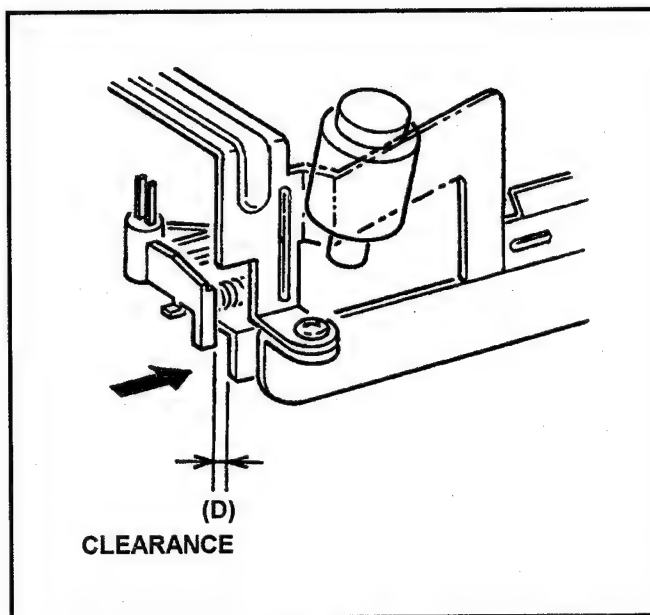

Fig. M21
2. Observe the clearance (D) between Cleaning Arm Unit and Cleaner Base Plate as shown in Figure M21. And make sure that it is within 0.5 to 0.7mm.
3. If not, loosen the 2 screws (A) and adjust the position of Cleaner Solenoid Unit by moving to arrow direction (C⇌C) with eccentric driver so that the clearance (D) is within specification. And tighten the 2 screws (A).